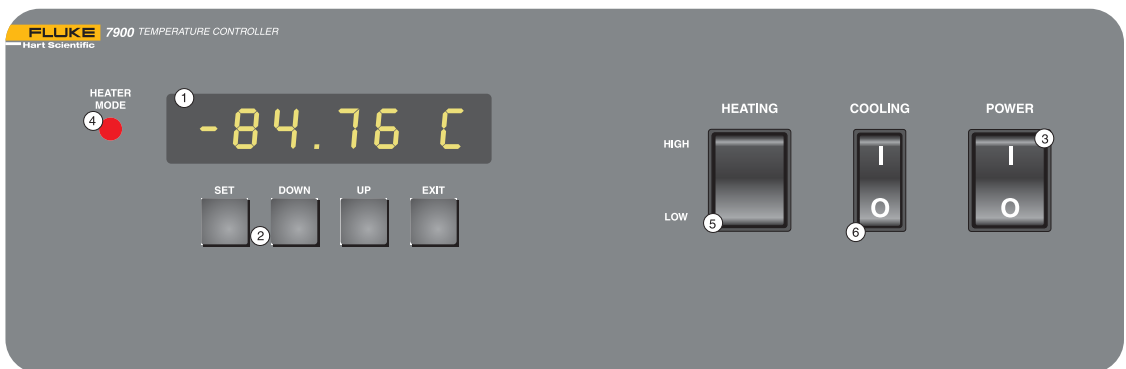

Figure 4 Front Control Panel
The following controls and indicators are present on the controller front panel (see Figure 4 below): (1) the digital LED display, (2) the control buttons, (3) the controller on/off power switch, (4) the control indicator light, (5) the heater select switch, and (6) the cooling power switch.
(1) The digital display is an important part of the temperature controller because it not only displays set and actual temperatures but also displays various functions, settings, and constants. The display shows temperatures in values according to the selected scale units °C or °F.
(2) The control buttons (SET, DOWN, UP, and EXIT) are used to set the temperature set-point, access and set other operating parameters, and access and set calibration parameters. A brief description of the button functions follows: